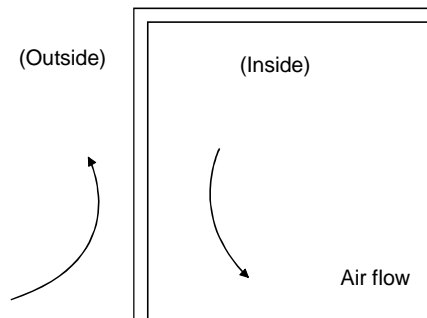

Fig. 12.4 Temperature distribution in enclosure
Fig. 12.4 shows the pattern in which the servo motor comes to a stop when the dynamic brake is operated. Use Equation 12.2 to calculate an approximate coasting distance to a stop. The dynamic brake time constant  $\tau$  varies with the servo motor and machine operation speeds. (Refer to Fig. 12.5)
- $t_e$  : Delay time of control section (Fig. 12.4)..... [s]